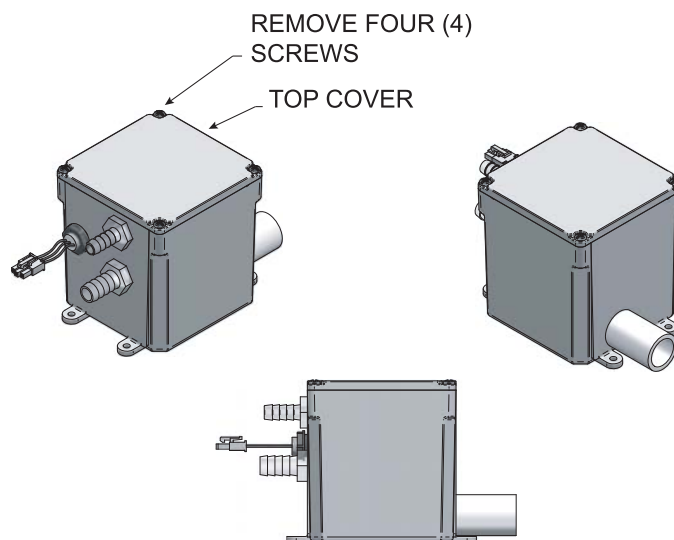

Figure 7-1 Condensate Trap
1. Remove the four (4) screws securing the top cover to the condensate trap and remove the cover (FIG. 7-1).
5. Replace the four (4) screws removed in Step 1.
The condensate trap (FIG. 7-1) must be filled with water during all times of water heater operation to avoid flue gas emission from the condensate drain line. Failure to fill the trap could result in severe personal injury or death.